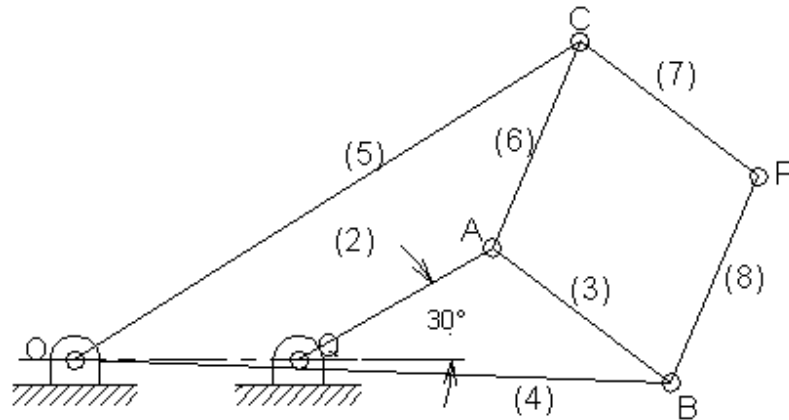

Figure P2.10
2.10 For the Peaucellier mechanism shown in Figure P2.10; find the velocity and the acceleration of point P if link (2) rotates with an angular velocity of 5 rad/s and an angular acceleration of 1 rad/s^2 , both are clockwise. Choose any position for the mechanism.